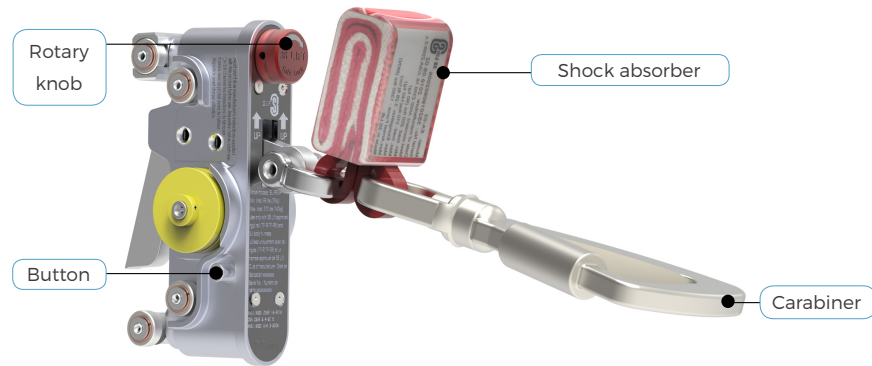

Fig. 2.1
2.1 The fall arrester is shown in Fig. 2.1 .